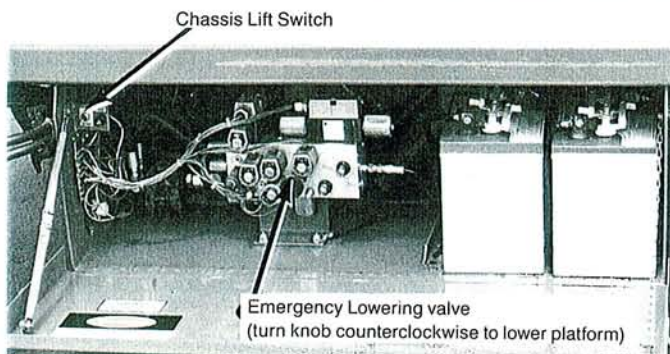

Figure 1. Power Module
17. Push chassis lift switch to "UP" position and fully elevate platform (Figure 1).
20. Lower platform partway by pushing chassis lift switch to "DOWN" (Figure 1).
23. Close emergency lowering valve (Figure 1).
2. Open valve by turning knob counterclockwise (Figure 1).